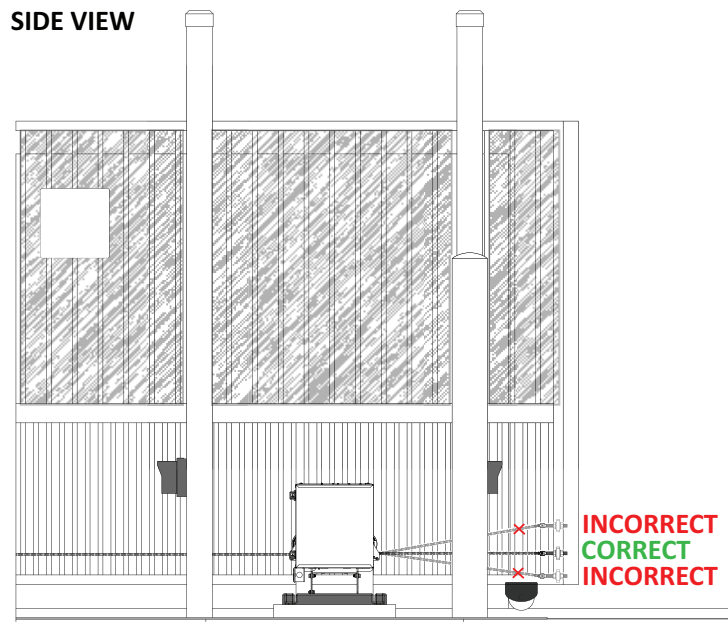

Figure 16. Side View Chain Installation
1. Connect the red battery wire to its spade terminal. Figure 16.